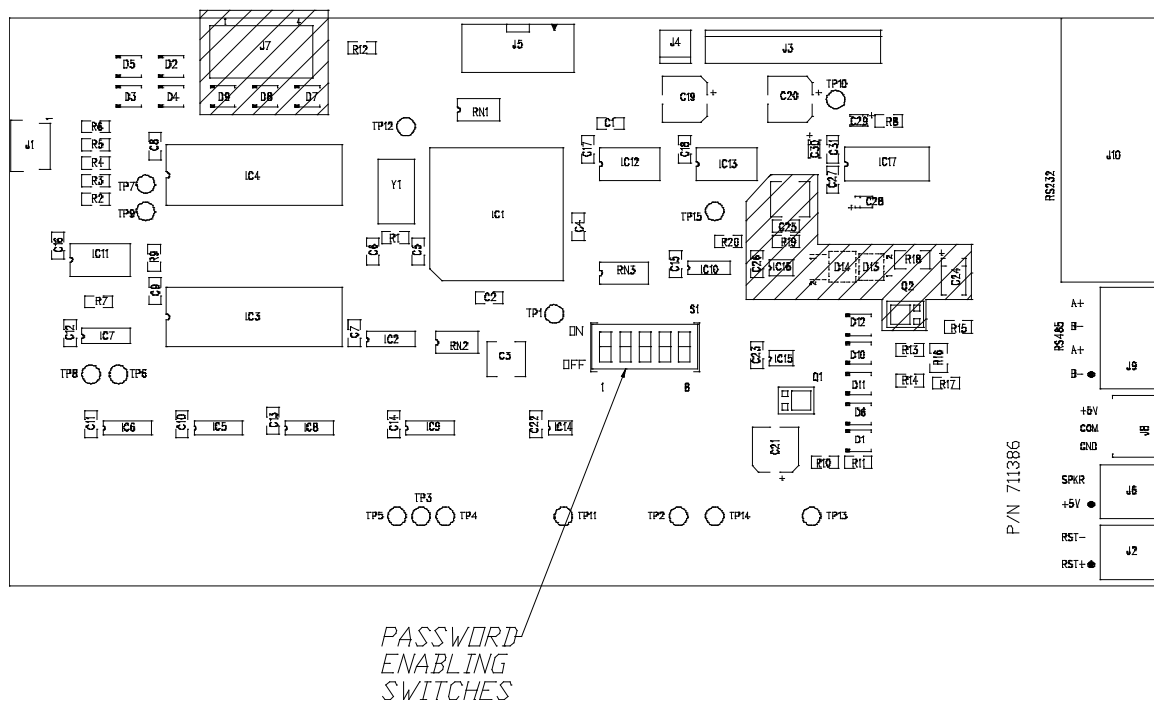

Figure C-5. Switch Bank Location
4. Locate the bank of switches on the printed circuit board exposed when the front cover is removed (FIGURE C-5).